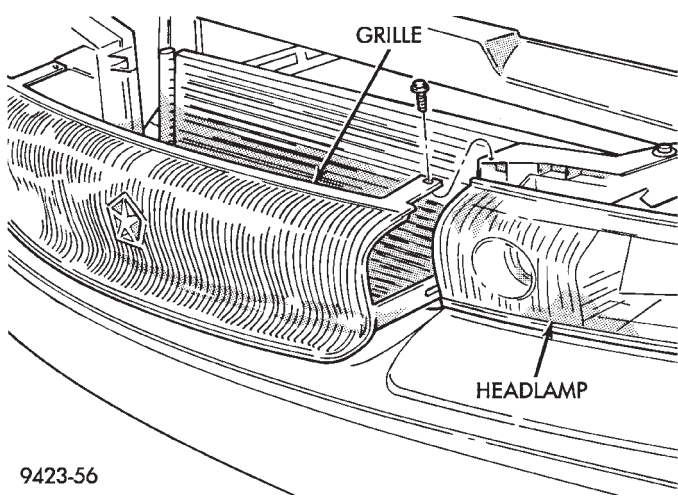

Fig. 1 Grille
- (1) Release hood latch and open hood.
- (2) Remove radiator closure panel sight shield.
- (3) Remove screws holding top of grille to headlamp modules (Fig. 1).
- (4) Disengage clips holding bottom of grille to headlamp modules.
- (5) Separate grille from vehicle.